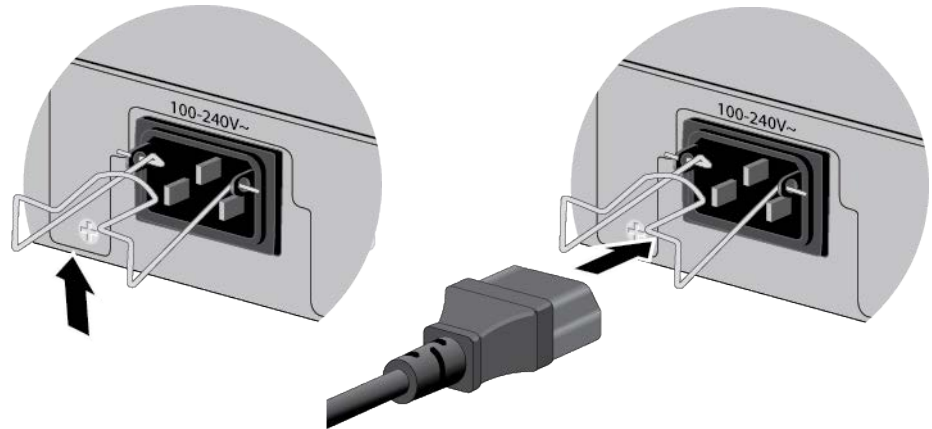

Figure 53. Connecting the AC Power Cord
2. Raise the retaining clip and connect the AC power cord to the AC power connector. Refer to Figure 53 on page 89.